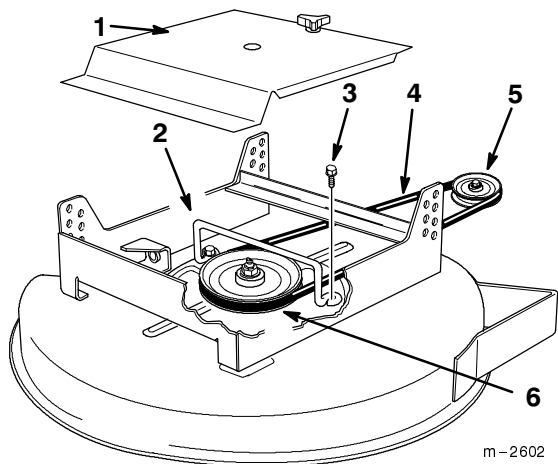

Figure 39
2. Loosen the hand knob holding the mower cover to the top of the mower and remove the cover (Fig. 39).
- Remove the two flange-head bolts holding the belt guide to the top of the mower and remove the belt guide (Fig. 39).